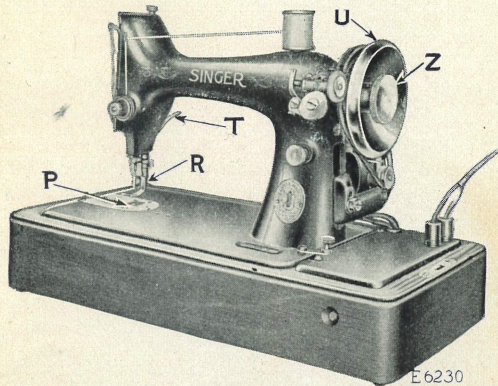

FIG. 5. FRONT VIEW OF THE MACHINE
To prevent injury to the presser foot (R, Fig. 5) and feed (P, Fig. 5), raise the presser foot (R) by means of the presser bar lifter (T, Fig. 5).
It is necessary to understand the stop motion (Z, Fig. 5, page 7) by which the balance wheel
(U, Fig. 5) can be released when required, thus permitting the winding of bobbins without running the stitching mechanism. It also allows you to wind bobbins without removing partially sewn work and without unthreading the machine.
To release the balance wheel (U, Fig. 5), turn the stop motion screw (Z, Fig. 5) over toward you. It is necessary to hold the balance wheel while loosening the stop motion screw.